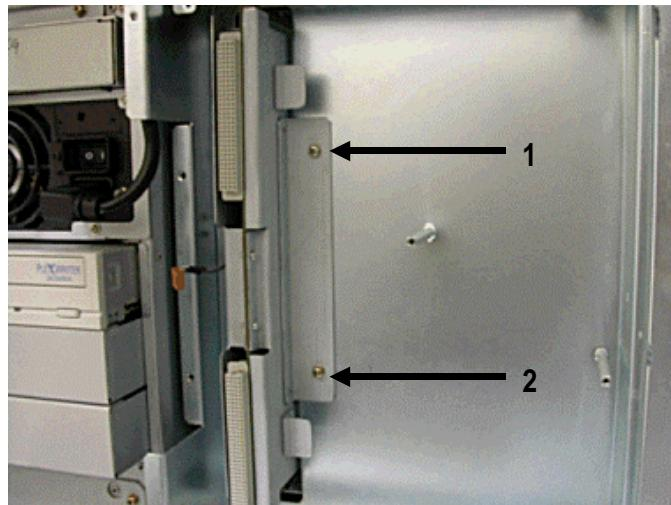

Figure 8-82 Unscrew 2 screws to remove the LMT B'd
- 2.) Unscrew two (2) screws (1-2) to remove the LMT Board. Refer to Figure 8-82.